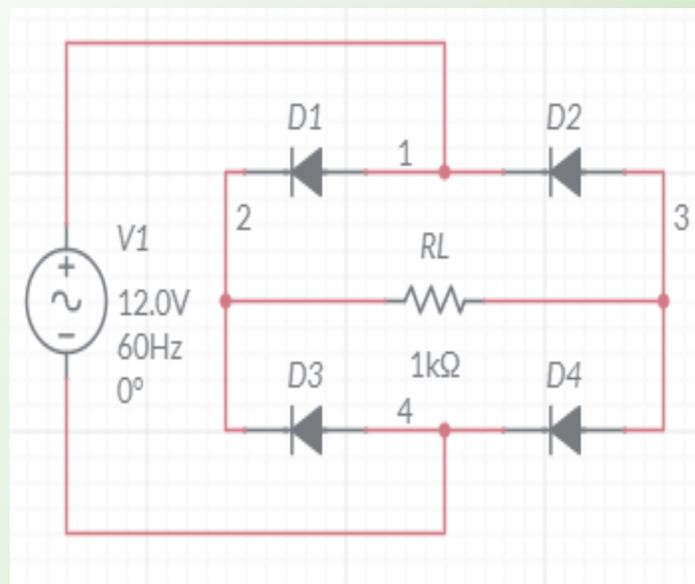

Figure 1.7: Output at R_L
1. Determine the output(V_o) across R_L in Figure 1.7.
2. If the diode at figure 1.7 change from germanium diode to silicon diode, calculate the V_o across R_L .